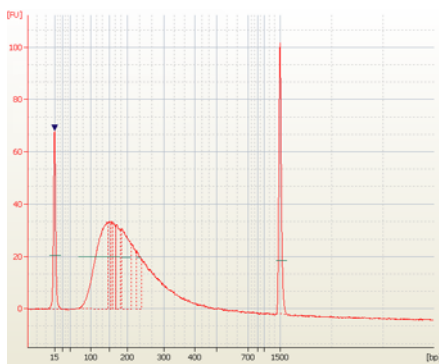

Figure 2 Analysis of sheared DNA using a DNA 1000 Bioanalyzer assay.
- 7 Check that the electropherogram shows a DNA fragment size peak between 150–200 bp. A sample electropherogram is shown in Figure 2.